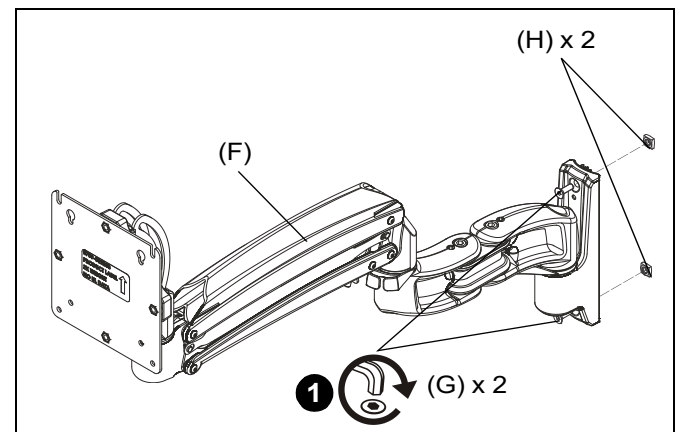

Figure 8
1. Loosely install two #10-24 x 5/8" flat head cap screws (G) through holes on each KXC420 arm (F) and into two #10-24 square nuts (H). (See Figure 8)